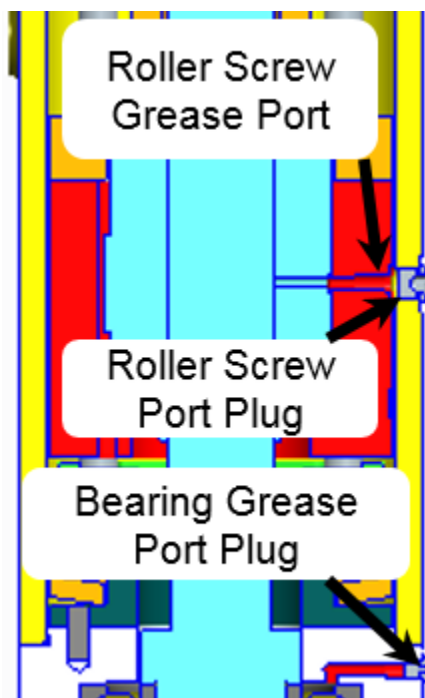

Figure 2-1. Ball Screw Assembly Lubrication
2. Command the actuator to the 100% position (fully retracted) so that the Roller Screw Port Plug will align with the Roller Screw Grease Port per Figure 2-1.
3. Remove the roller screw port plug with a 1/4 inch hex wrench (Figure 2-1).
7. Remove the grease syringe from the roller screw grease port and install the roller screw port plug and torque the port plug to 7.9-9.0 N·m / 70-80 lb.-in (Figure 2-1).